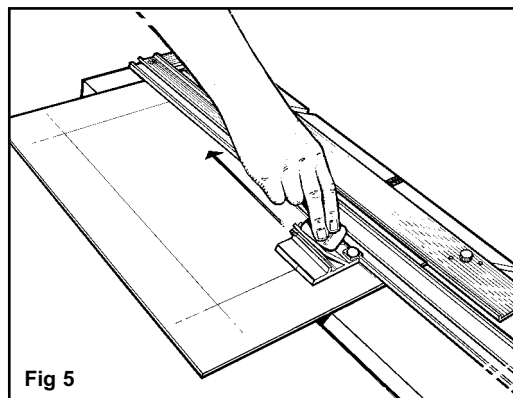

Fig 5
9. Release the Anti-Crawl Pin and pull the cutting head towards you until the Start and Stop Indicator line lines up with the line on the matboard closest to you. **DO NOT GO PAST THE LINE! Fig. 5**